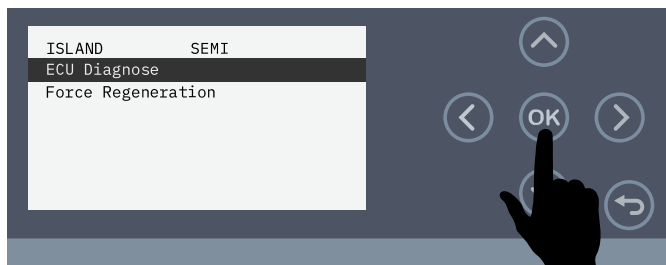

Figure 153. Select ECU Diagnose
3. Make sure **ECU Diagnose** (Figure 153) is highlighted on the display, then press the **OK** button.